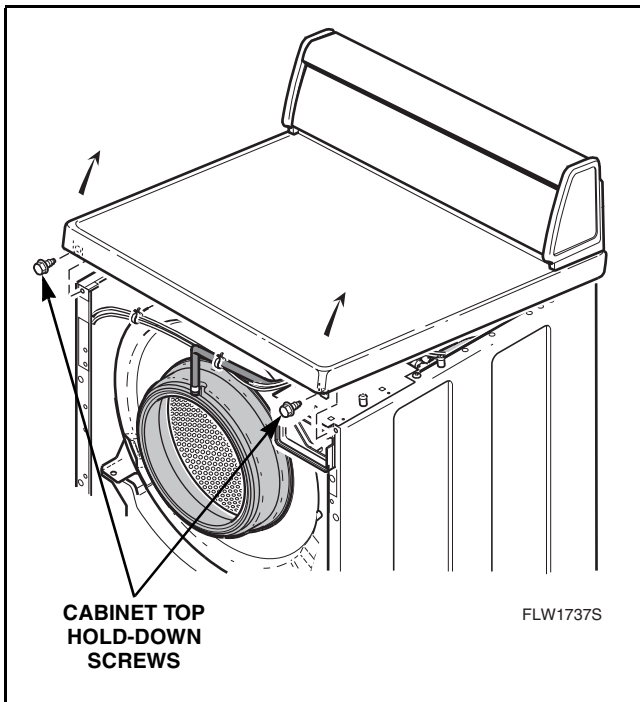

Figure 13
- j. Remove two screws holding front of cabinet top to front flange of side panels. Refer to *Figure 13*.
- (10) Remove two screws holding front of cabinet top to front flange of side panels. Refer to *Figure 13*.